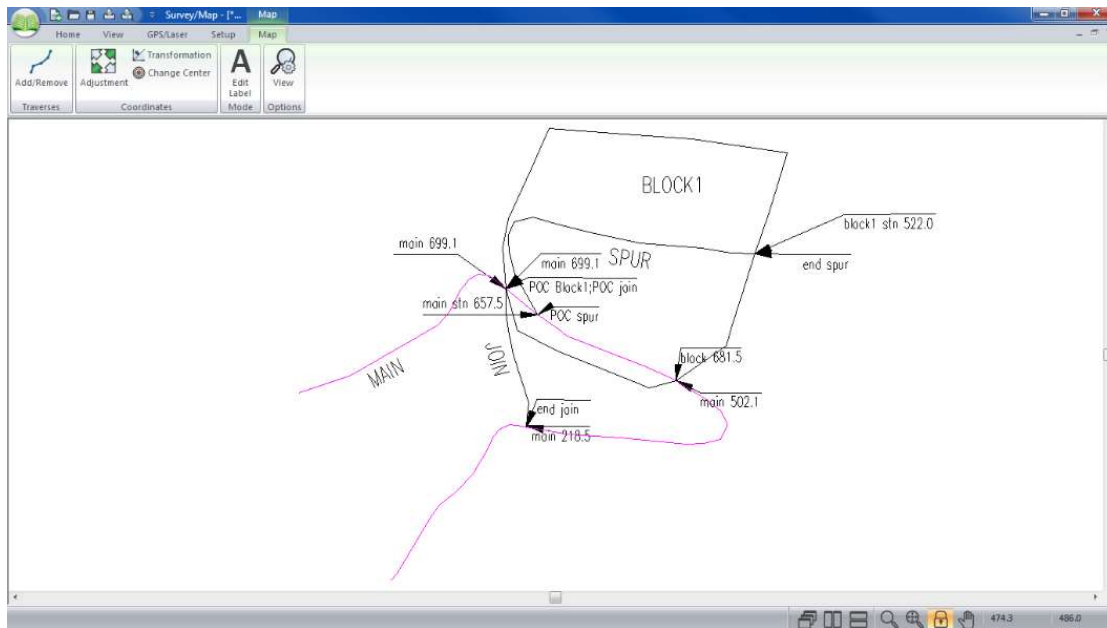

Figure 5-15: method2.map after Adjusting join.tr1
15. Now press the *Delete* button and press *Apply*. The final adjustment will now look like Figure 5-15, because the previous main adjustments in the list now take effect.